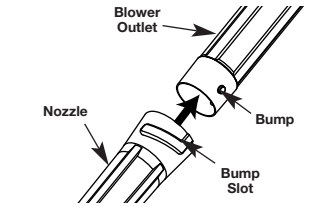

Fig. 3
1. Align the bump on the end of the blower tube with the bump slot on the end of the nozzle (Fig. 3).
2. Insert the bump on the blower tube into the bump slot on the nozzle (Fig. 3).